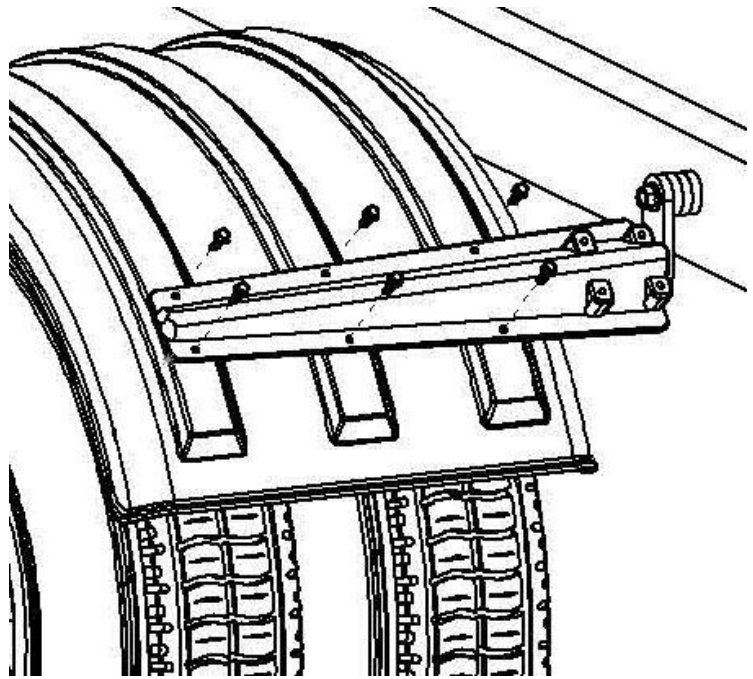

Figure 14
- e. Make sure the fenders are square and aligned (Figure 14). Twists or bows in the fender will fatigue the material over time.